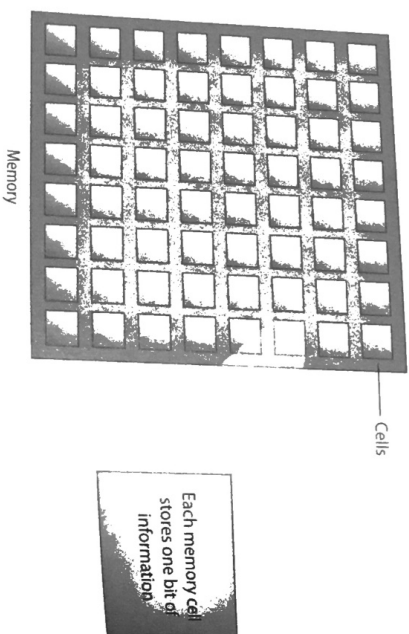

Figure 10.17 | Individual memory chips are made of millions of storage cells, and each cell may store a one or a zero.
Memory chips contain electrical circuitry capable of storing a one or a zero. Stored information is called data. Electrical signals activated memory's storage circuitry to accept digital values as data and then store the data at specific locations inside the memory. This storage capability of a memory device is similar to that of a flip-flop. The difference between the flip-flop and memory is that a flip-flop stores one bit of information, whereas a memory chip stores millions of bits of data (see Figure 10.17). This is why the computer industry expresses memory sizes in Megabytes (MB) (approximately a million bytes) and Gigabytes (GB) (approximately a billion bytes). Integrated circuit fabrication makes it possible for a single memory chip to hold vast amounts of data. Memory is necessary in all computer systems.